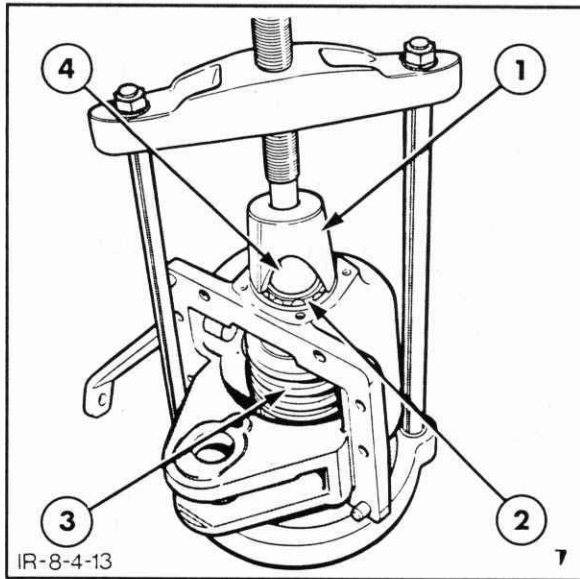

Figure 7-151
8. Using a suitable press and sleeve, press the output shaft and front bearing into the casing, Figure 7-151.